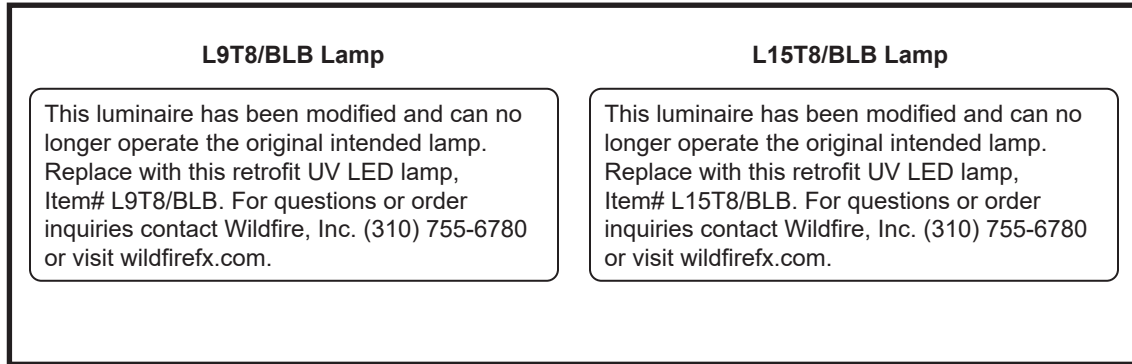

Fig. 5
14. Upon completion of retrofit before installing the lamp(s) apply the appropriate included label shown in Fig. 5 to the retrofit luminaire where readily visible by the user during normal maintenance including re-lamping.